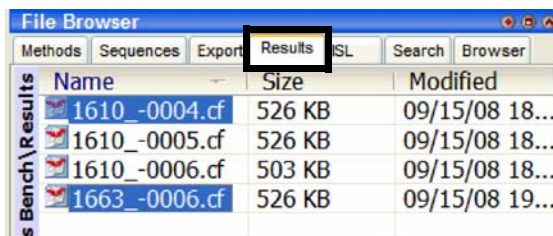

Figure 3-72. Selecting cf-file(s) at Results tab of File Browser
1. Click on the Results tab of the File Browser. Results are listed there as cf-files. Mark the cf-files of your choice. See Figure 3-72.